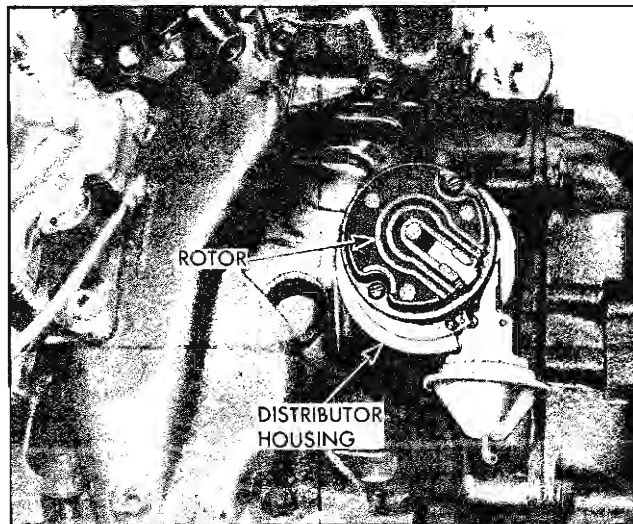

Fig. 11-45 Relationship of Distributor Housing in Firing Position For No. 1 Cylinder
3. Install distributor in block so that vacuum diaphragm faces the left side of the engine and rotor points toward contact in cap for No. 1 cylinder. Before installing distributor, index rotor with housing as noted when distributor was removed. This will simplify indexing the distributor shaft and gear with the oil pump drive shaft and the drive gear on the camshaft. Distributor and rotor will be positioned as shown in Fig. 11-45 when properly installed with No. 1 piston in firing position.